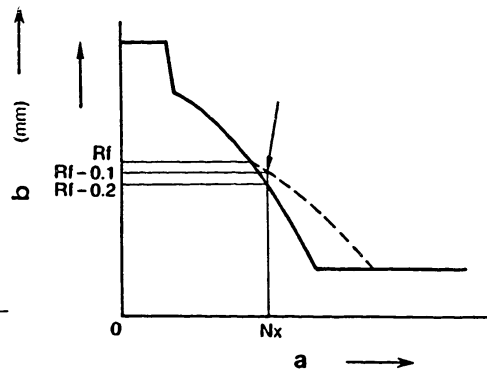

Fig. 158 Set position of damper spring
3. Screw in the damper spring (220) so that the rod position is " $R_f - 0.1$ mm and fix it with the locknut (refer to Figs. 158 and 159).